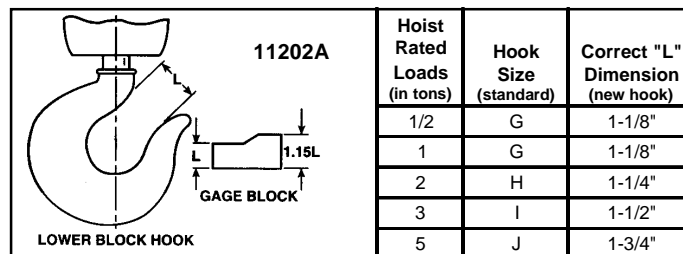

Figure 5-1. Proper Hook Opening
- as. DO NOT operate hoist with hooks that have opened up. See Figure 5-1.
- f. Check throat opening of hook. (Refer to Figure 5-1.) It is recommended that upon receipt of the hoist a measurement be made and recorded of the hook throat opening. OSHA Standards require that the hook be replaced if the throat opening exceeds 15 percent of the original opening, or if the hook is twisted more than 10 degrees from the unbent plane. A gage block, properly identified to the hoist, similar to the one shown in Figure 5-1, is suggested to be made for each hook for use in these measurements.